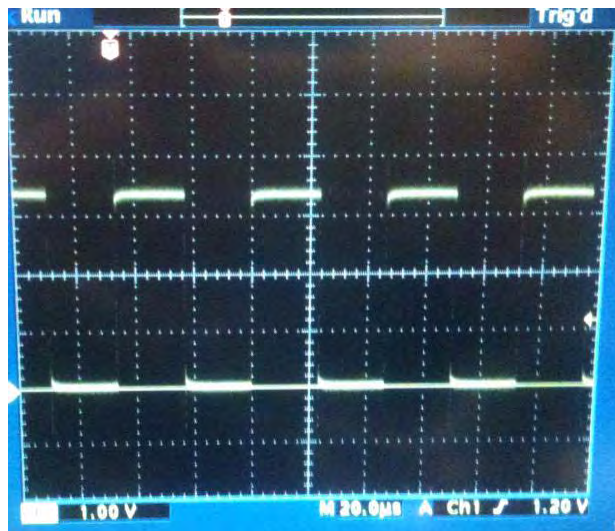

Figure 7. 50% Duty Cycle Waveform
10. Adjust the VPS to 1 V. The oscilloscope at R3 should show a 50% duty cycle like the waveform shown in Figure 7 and the voltage at C8 is 1 V.